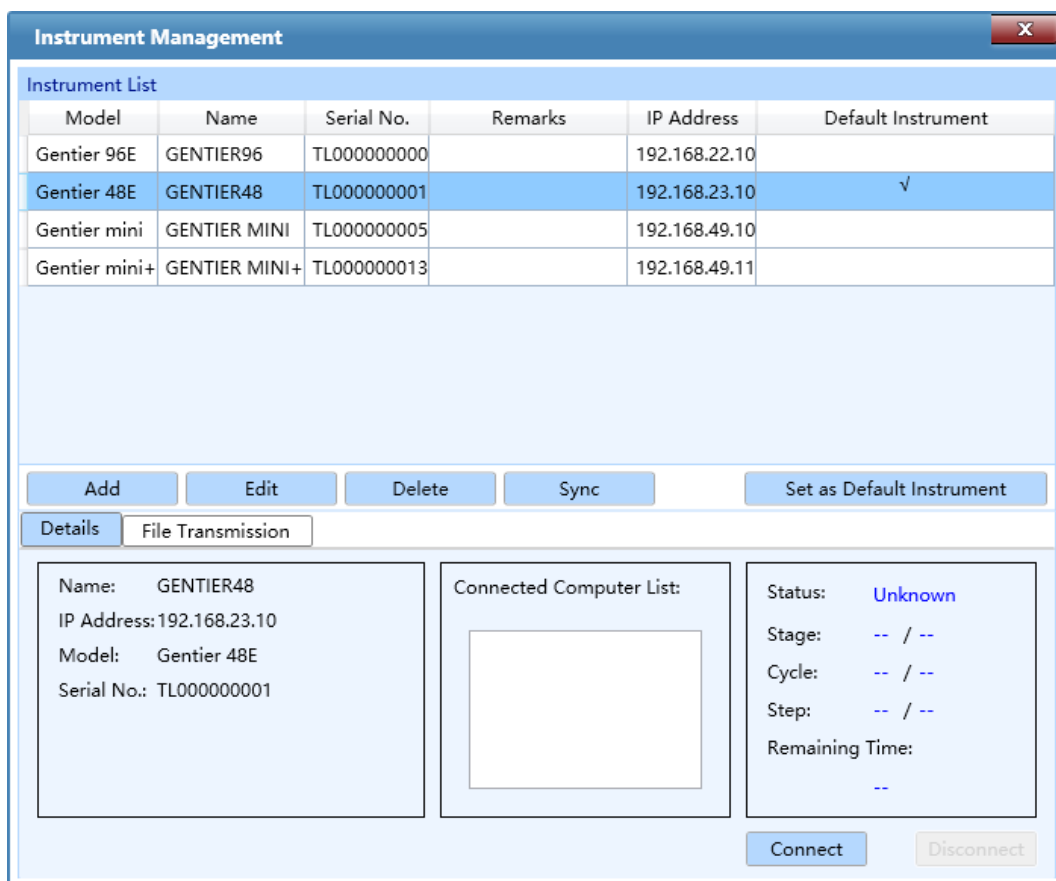

Figure D-3.2. Tool Submenu - Instrument Management Interface
1. **Instrument Management:** Click **Instrument Management** option in **Tool** submenu and the application software will automatically pop up the instrument management interface, which consists of these parts: **Instrument List, Details** tab and **File Transmission** tab, as shown in figure D-3.2. User can manage all instruments within the LAN on this interface.